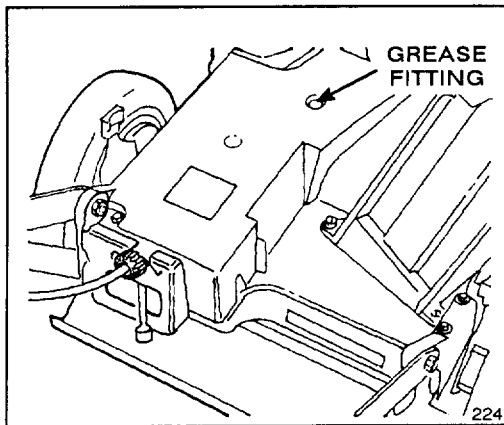

Figure 19
1. Install grease gun onto fitting thru belt cover opening (Fig. 19). Gently apply 1-2 pumps of grease.